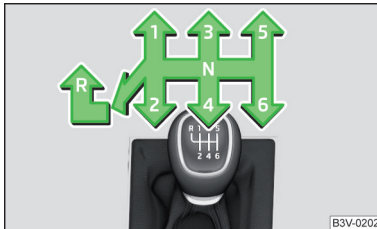

Fig. 168
The gearshift pattern for the individual gear positions is shown on the gear lever » Fig. 168.
- › Move the shift lever fully to the left and then forward into **R** position » Fig. 168.